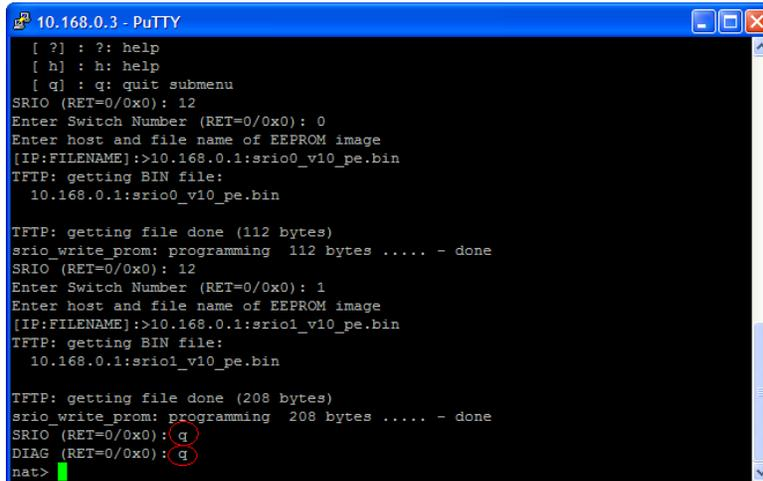

Figure 2-30: MCH Telnet Window - DIAG (RET=0/0x0): Prompt
19. At the SRIO (RET=0/0x0): prompt, type **q**. At the DIAG (RET=0/0x0): prompt, type **q**, as shown in Figure 2-30.